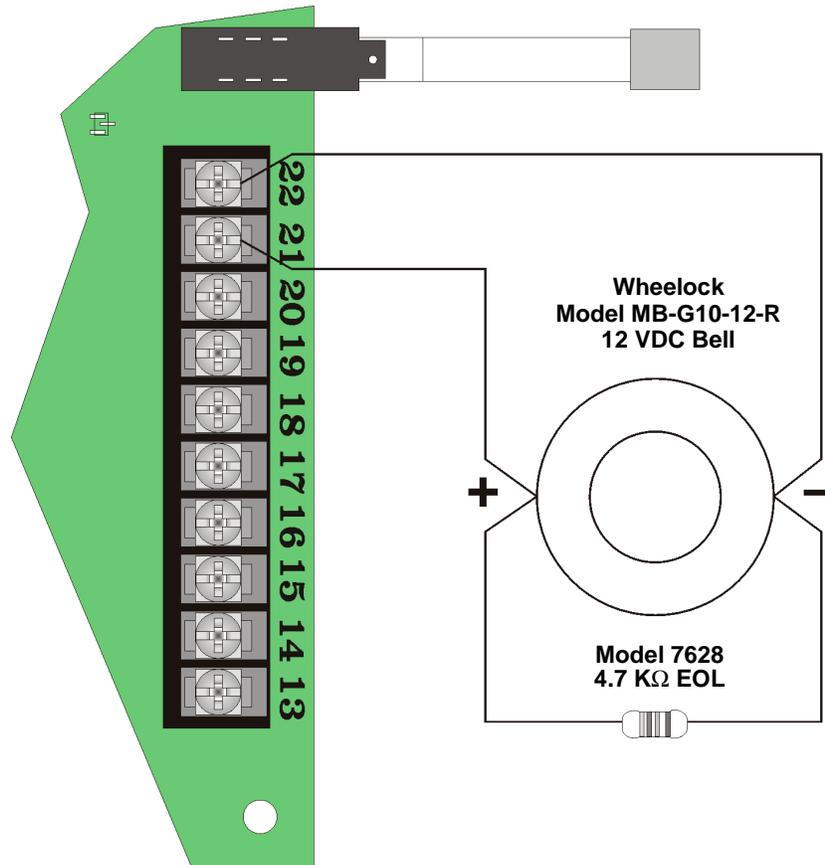

**Figure 3-13 Non-Supervised Alarm Bell Wiring**
Figure 3-13 illustrates how to wire a non-supervised notification device to the control panel.
*Note: Polarities shown in Figure 3-13 illustrate the polarity in an alarm condition. Under normal conditions the polarity of terminals 21 and 22 are reversed.*